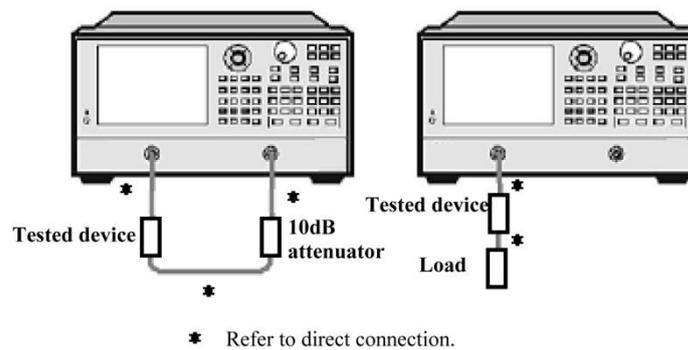

Fig. 8.10 Connection in Impedance Measurement
- 3) Connector shown in Fig. 8.10 for  $S_{11}$  or  $S_{22}$  measurement.
- c) Move the cursor along the track to read the conductance and susceptance component of the complex admittance of the data point, in siemens (S).